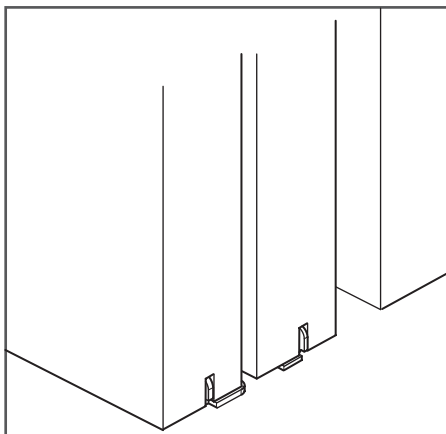

Figure 10
17. Slide both doors toward the open position, sliding the front door past the back for access to the back door lower edge (Figure 10).
21. Position doors over door guides as shown (Figure 10).